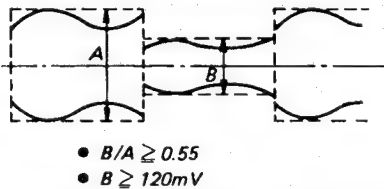

Fig. 1-4-16 Envelope output and output level difference
2. In playback using the same video deck as used for the recording, (with a E-180) the video envelope should meet the specification shown in Fig. 1-4-16.